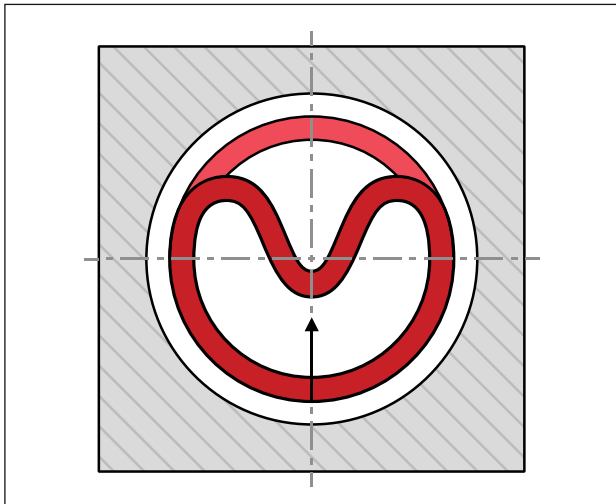

Figure 16: Insertion of the seal ring into the closed groove
- Position the compressed seal ring within the groove, pressing it against the O-Ring and reshaping it into a complete ring (see figure 16).